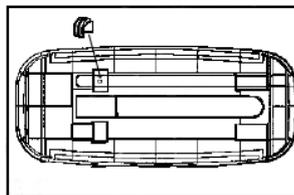
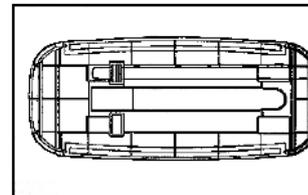

fig.8
fig.9
- 4.4. Fix the lever in position by using the lever holder (fig.8). Clip into position using location hole in lever (fig.9).